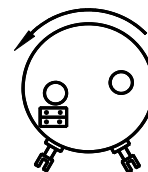

Fig.6
- Jumper placed "horizontally" for counter-clockwise direction. (fig. 6)